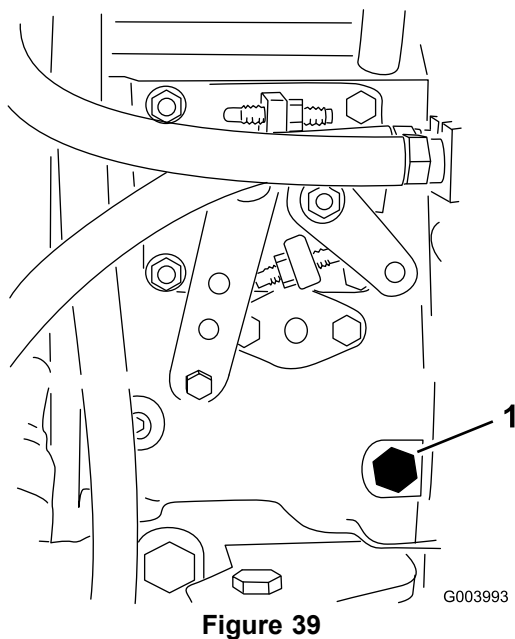

Figure 39
3. Open the air bleed screw on the fuel injection pump (Figure 39) with a 12 mm wrench.